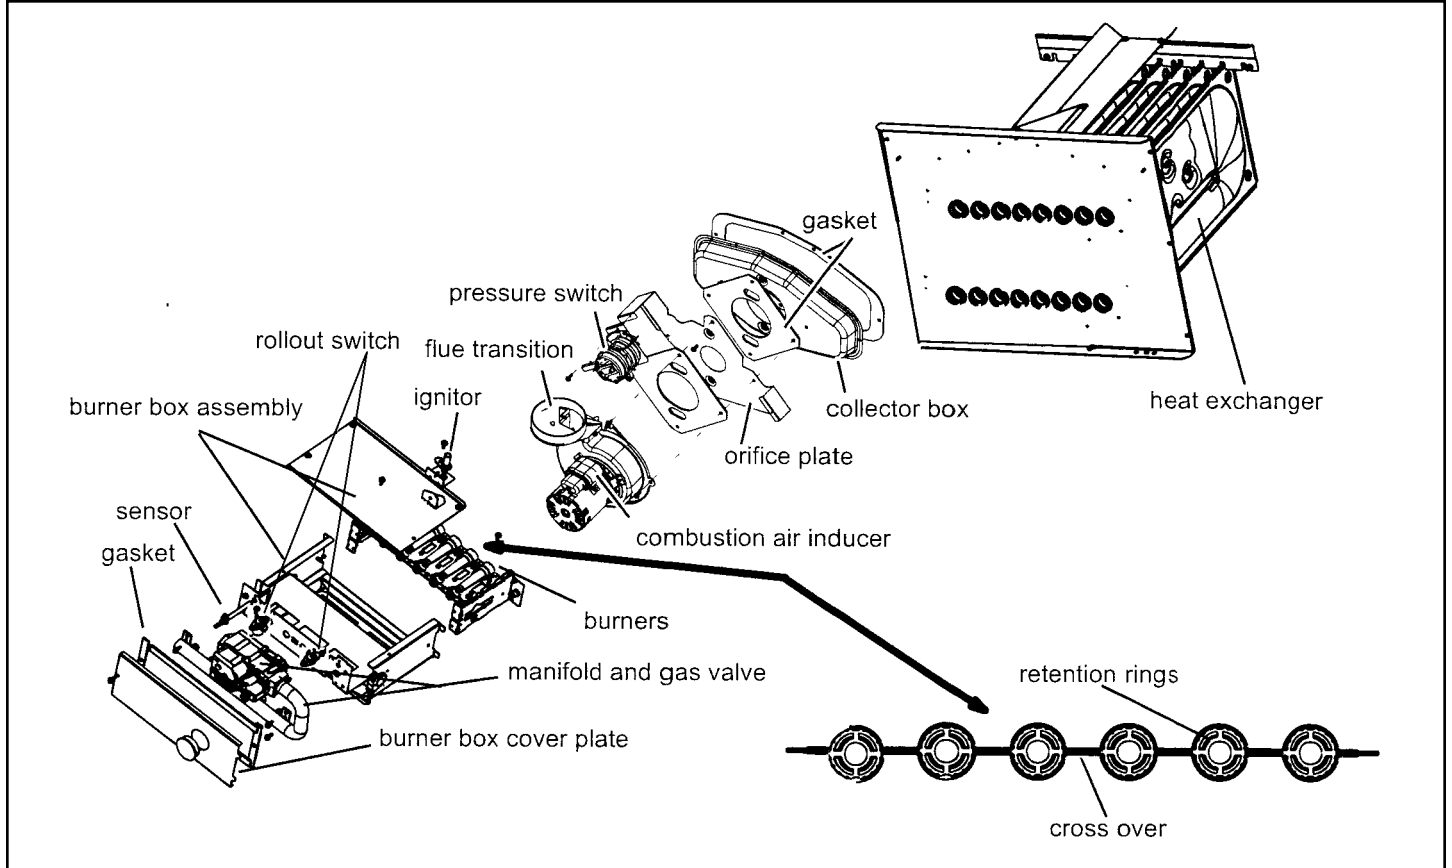

Figure 40. A80US2V Burner, Combustion Air Inducer Assembly & Heat Exchanger Removal
12. To clean burners, run a vacuum cleaner with a soft brush attachment over the face of burners. Visually inspect inside the burners and crossovers for any blockage caused by foreign matter. Remove any blockage. Figure 40 shows burner detail.